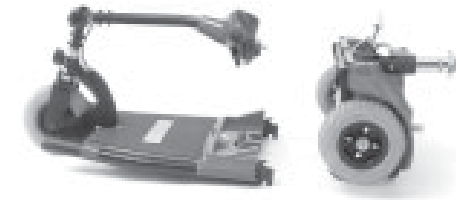

Figure 18. Frame Sections
5. Carefully lift the front section away from the rear section. See figure 18.
1. Position the front and rear sections of your scooter as shown in figure 18.